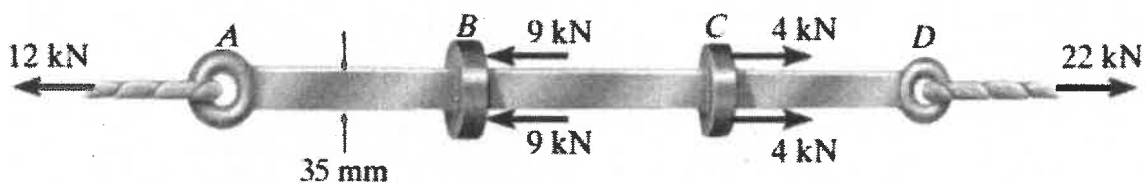

Figure 7: The Plate Bar
*Refer Below - Figure7 : The Plate Bar .*